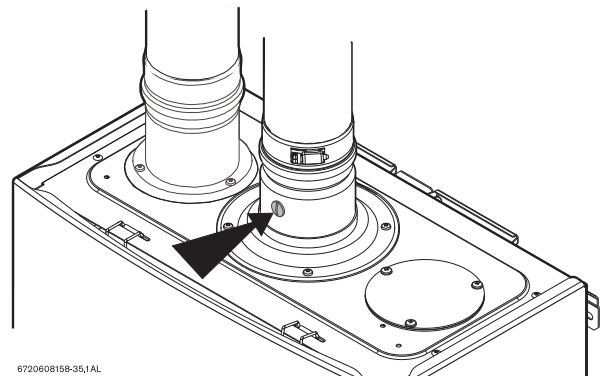

Fig. 64 Measuring port
- ▶ Remove brass flat head screw on the exhaust collar as seen in Fig. 64.